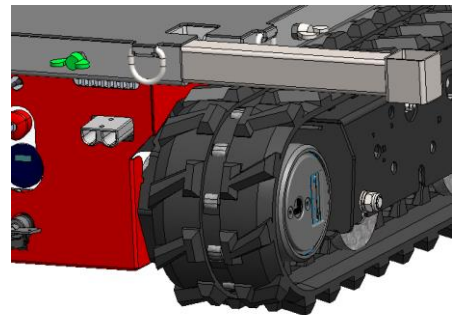

Figure: 14
- Loosen the wing bolt (green in figure 14) for the upright that is to be slid out (do not unscrew it all the way).